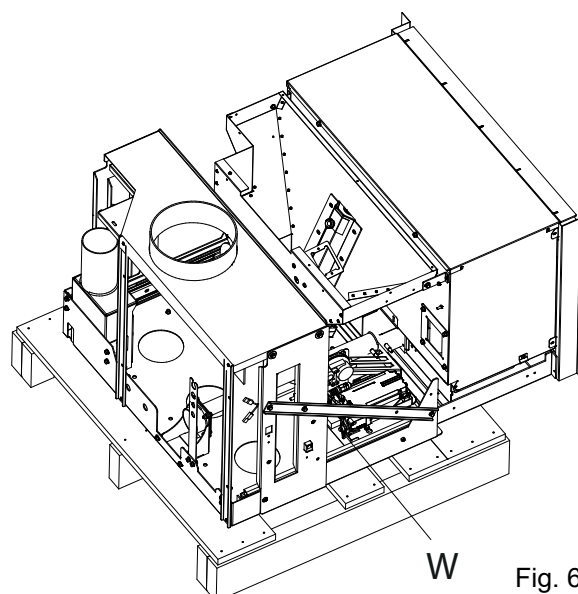

Fig. 6.1.3b
This operation trips a safety micro-switch (W) that deactivates electrical power. (Fig. 6.1.3b) the power cable must not be connected to mains power.